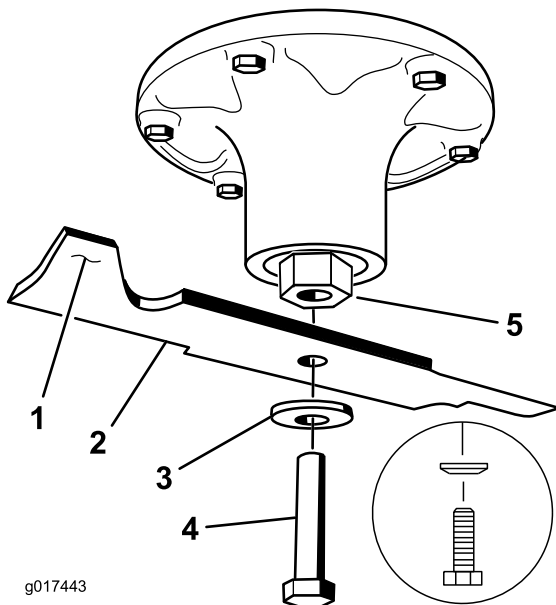

Figure 92
2. Remove the blade bolt, curved washer, and blade from the spindle shaft (Figure 92).
- Install the blade onto the spindle shaft (Figure 92).
- Install the curved washer and blade bolt (Figure 92).